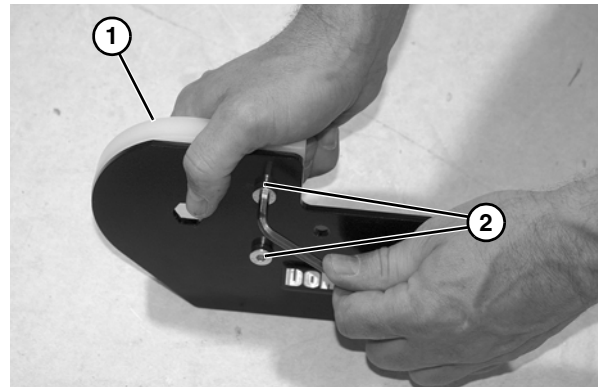

Figure 66
7. Check idler terminal assembly (**Figure 66, item 1**) for wear. If worn, remove two low head cap screws (**Figure 66, item 2**) and replace.